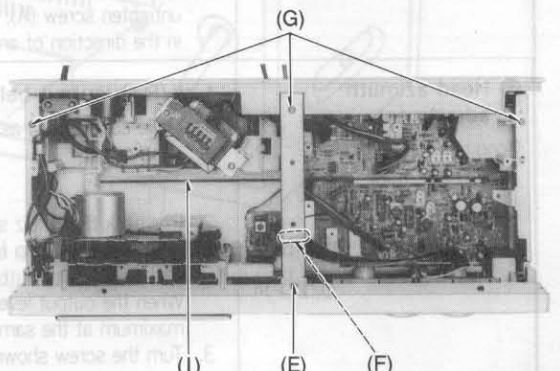
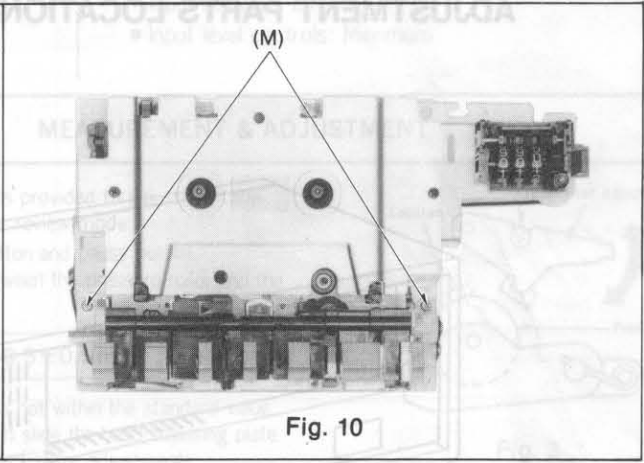

Fig. 4
Fig. 10
<p>B Head azimuth adjustment</p> <p>Condition:</p> <ul style="list-style-type: none"> <li>• Playback mode</li> </ul> <p>Equipment:</p> <ul style="list-style-type: none"> <li>• VTVM</li> <li>• Oscilloscope</li> <li>• Test tape (azimuth) ... QZZCFM</li> </ul>	<p>L-ch/R-ch output balance adjustment</p> <ol style="list-style-type: none"> <li>1. Make connections as shown in fig. 4.</li> <li>2. Playback the 8kHz signal from the test tape (QZZCFM). Adjust screw (B) in fig. 5 for maximum output L-ch and R-ch levels.</li> <li>3. Turn the screw shown in fig. 5 to find angles A and C (points where peak output levels for left and right channels are obtained). Then, locate the angle B between angles A and C, i.e., a point where L-ch and R-ch output levels come together at maximum. (Refer to figs. 5 and 6.)</li> </ol> <p>L-ch/R-ch phase adjustment</p> <ol style="list-style-type: none"> <li>4. Make connections as shown in fig. 7.</li> <li>5. Playback the 8kHz signal from the test tape (QZZCFM). Adjust screw (B) shown in fig. 5 so that pointers of the two VTVMs swing to maximum and a waveform as illustrated in fig. 8 is obtained on the oscilloscope.</li> </ol>  <p style="text-align: center;">Fig. 4</p>  <p style="text-align: center;">Fig. 5</p>  <p style="text-align: center;">Fig. 6</p>  <p style="text-align: center;">Fig. 7</p>  <p style="text-align: center;">Fig. 8</p>
<p>D Playback frequency response</p> <p>Condition:</p> <ul style="list-style-type: none"> <li>• Playback mode</li> <li>• Tape selector ... Normal position</li> </ul> <p>Equipment:</p> <ul style="list-style-type: none"> <li>• VTVM</li> <li>• Oscilloscope</li> <li>• Test tape... QZZCFM</li> </ul>	<p>1. Test equipment connection is shown in fig. 4.</p> <p>2. Place UNIT into playback mode.</p> <p>3. Playback the frequency response test tape (QZZCFM).</p> <p>4. Measure output level at 315Hz, 12.5kHz, 8kHz, 4kHz, 1kHz, 250Hz, 125Hz and 63Hz, and compare each output level with the standard frequency 315Hz, at LINE OUT.</p> <p>5. Make measurement for both channels.</p> <p>6. Make sure that the measured value is within the range specified in the frequency response chart (shown in fig. 10).</p> <div style="text-align: right;"> <p>Playback frequency response chart</p>  <p>Fig. 10</p> </div>
<p>E Playback gain</p> <p>Condition:</p> <ul style="list-style-type: none"> <li>• Playback mode</li> <li>• Tape selector ... Normal position</li> </ul> <p>Equipment:</p> <ul style="list-style-type: none"> <li>• VTVM</li> <li>• Oscilloscope</li> <li>• Test tape... QZZCFM</li> </ul>	<p>1. Test equipment connection is shown in fig. 4.</p> <p>2. Playback standard recording level portion on test tape (QZZCFM 315Hz), and using VTVM measure the output level at LINE OUT.</p> <p>3. Make measurement for both channels.</p> <div style="text-align: center; border: 1px solid black; padding: 5px;"> <p>Standard value: 0.4V ± 1dB [around 0.42V: at test points TP5 (L-CH) and TP6 (R-CH)]</p> </div> <p>Adjustment</p> <ol style="list-style-type: none"> <li>If measured value is not within standard, adjust VR1 (L-CH), VR2 (R-CH) (See fig. 2 on page 3).</li> <li>After adjustment, check "Playback frequency response" again.</li> </ol>